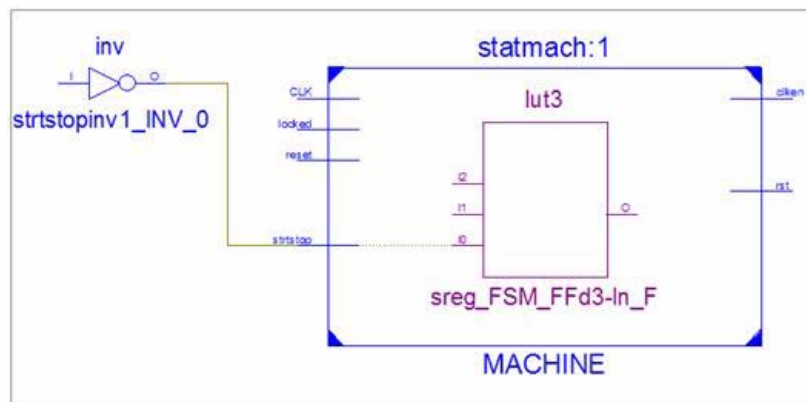

Figure 5-6: Machine Block
1. Double-click on the internal and external **strstop** pin of the **MACHINE** block to get the following schematic (Figure 5-6):